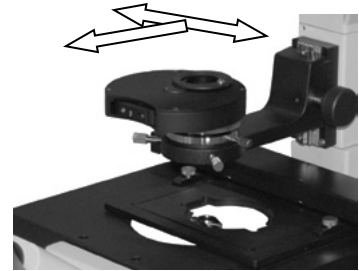

Fig. 4a. Installing the condenser
7. Unpack the condenser **5** and place it in the condenser holder **4**. Rotate the turret, as shown in Fig. 4a, and secure it with a screw.